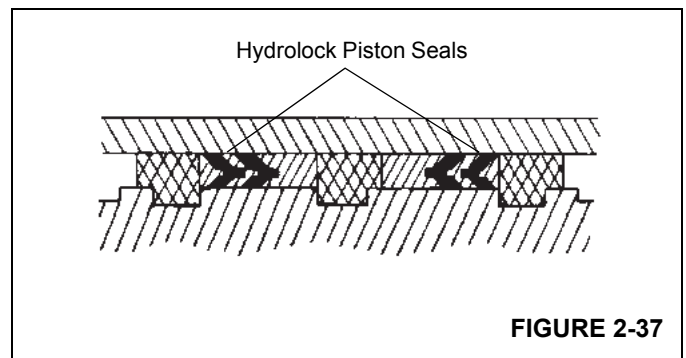

FIGURE 2-37
11. Install the replacement hydrolock seals on the outside of the piston Figure 2-37. Make sure the "vees" on the two hydrolock seals point at each other.